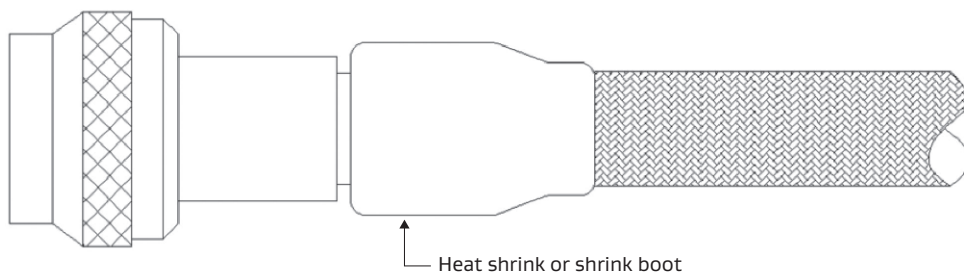

Figure 19: Sliding the heat shrink or shrink boot
4. Slide the heat shrink or shrink boot over the band strap (Figure 19).